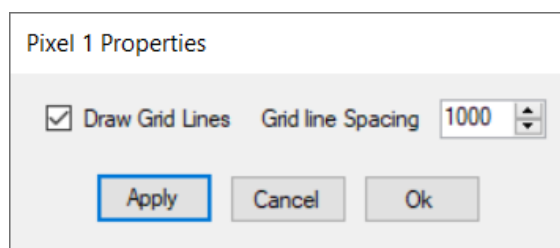

Figure 29: Oscilloscope view Properties Dialog Box
- This displays the Oscilloscope view Properties dialog box (Figure 29) which controls display and spacing (in mV) of the horizontal grid lines.